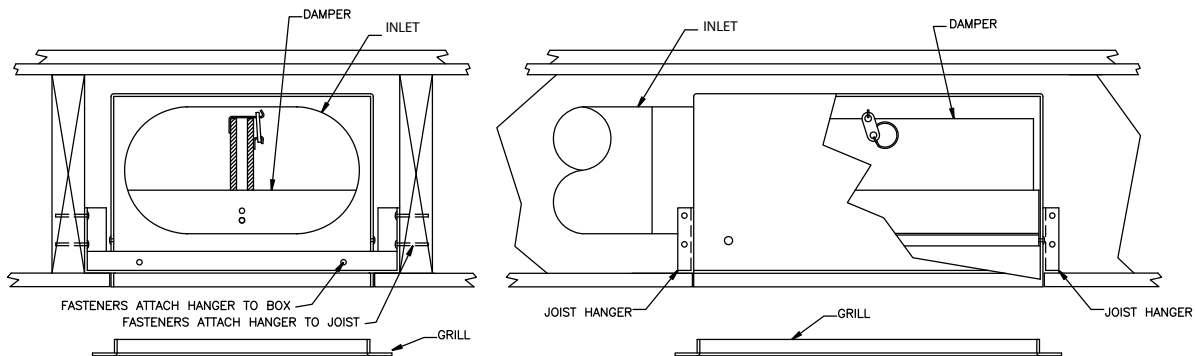

Figure 4
- 2) Insert the damper assembly, with attached mounting angles, between ceiling joists and attach to joists using minimum 2 - #8 x 3/4 in. (19mm) nails per side - see Figure 4.